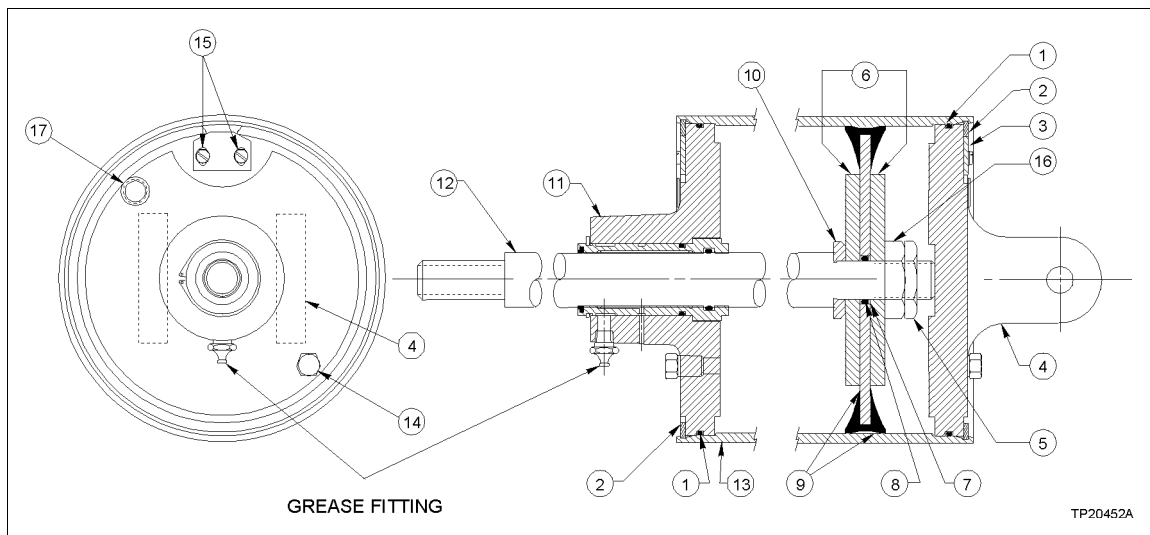

Figure 8-3. Cylinder Assembly for Type UP4 Actuators (Part Number 5328769_1)
for UP4, items 1, 8, 9 in Figs. 8-3 and 8-4